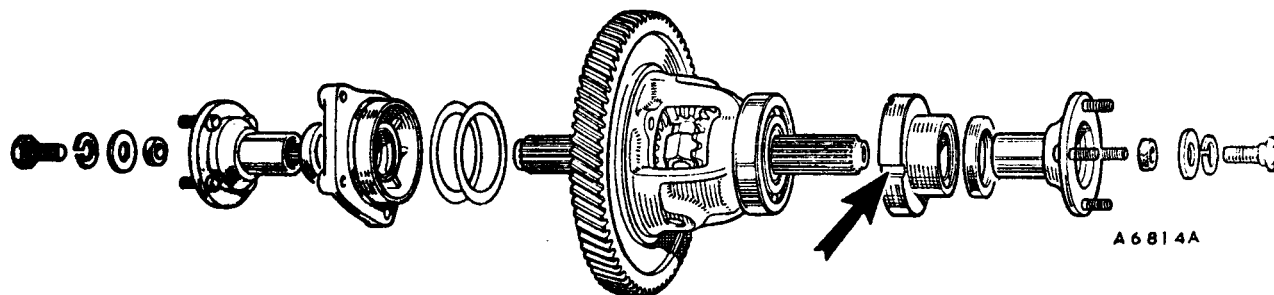

Fig. Fa.65
14. Refit the differential unit into the transmission case and push the assembly towards the converter, with the slot in the spacer in alignment with the dowel in the transmission case (Fig. Fa.65). Fit a new joint washer coated with Hylomar jointing compound. Ensure that the oil seal is pressed squarely against the face of the spacer and refit the differential housing, fit new locking plates, and lightly tighten the securing nuts.